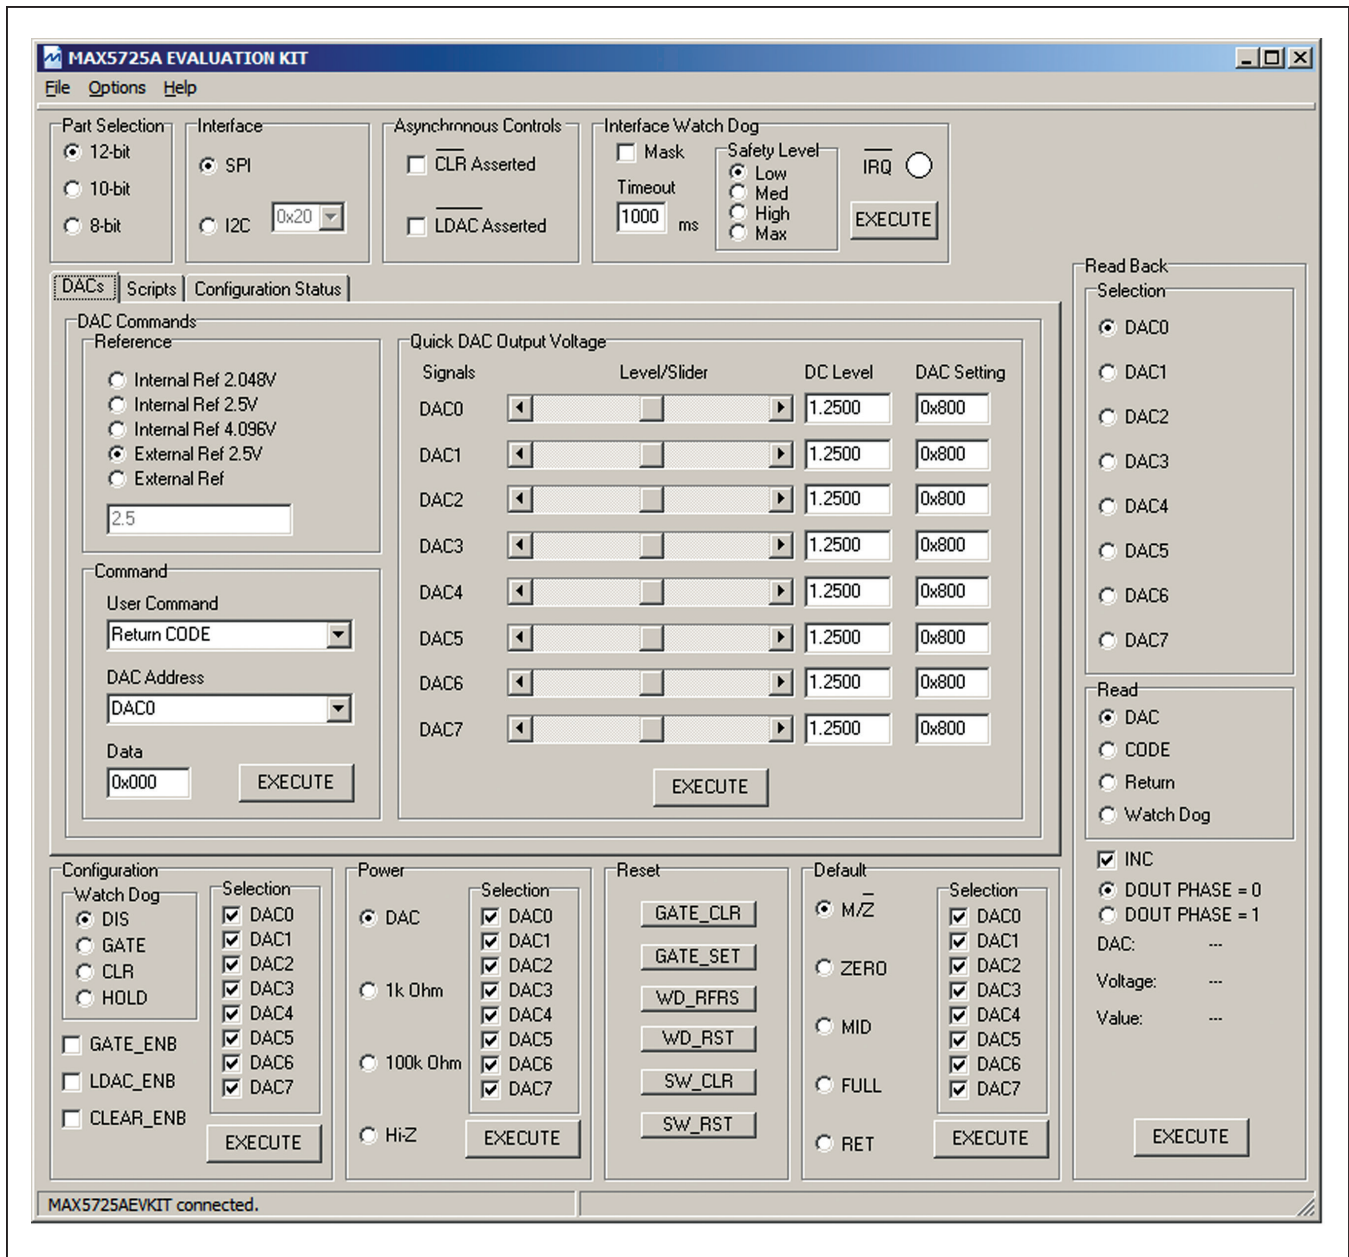
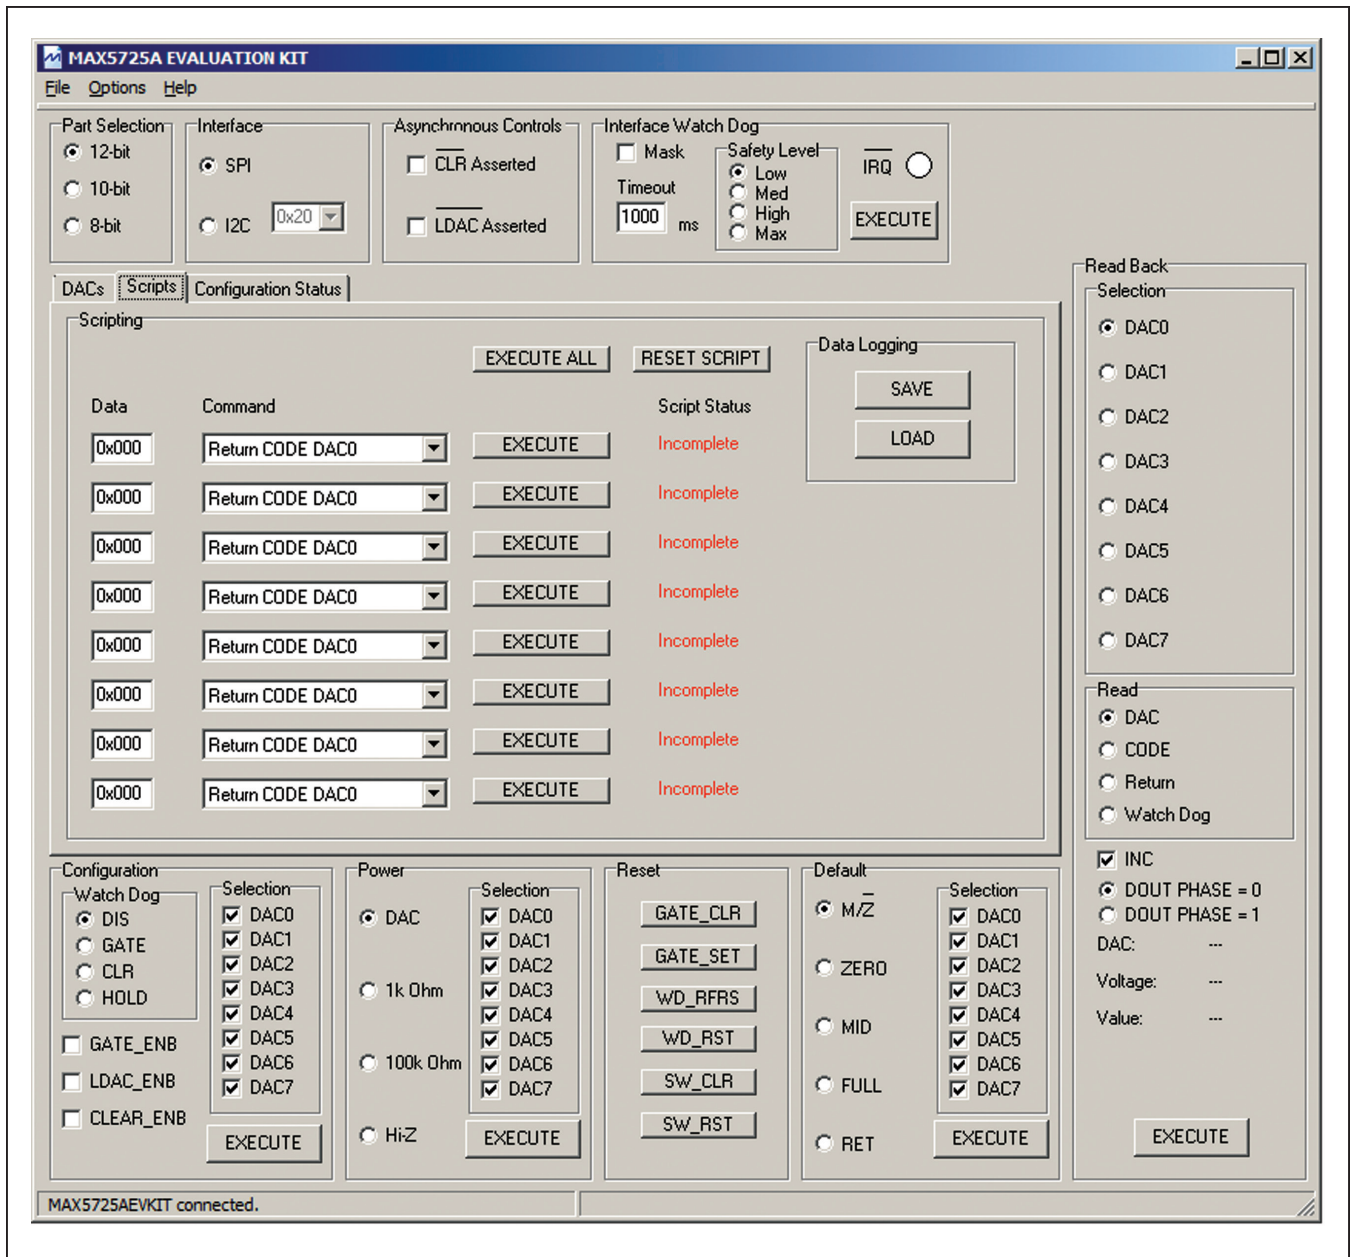
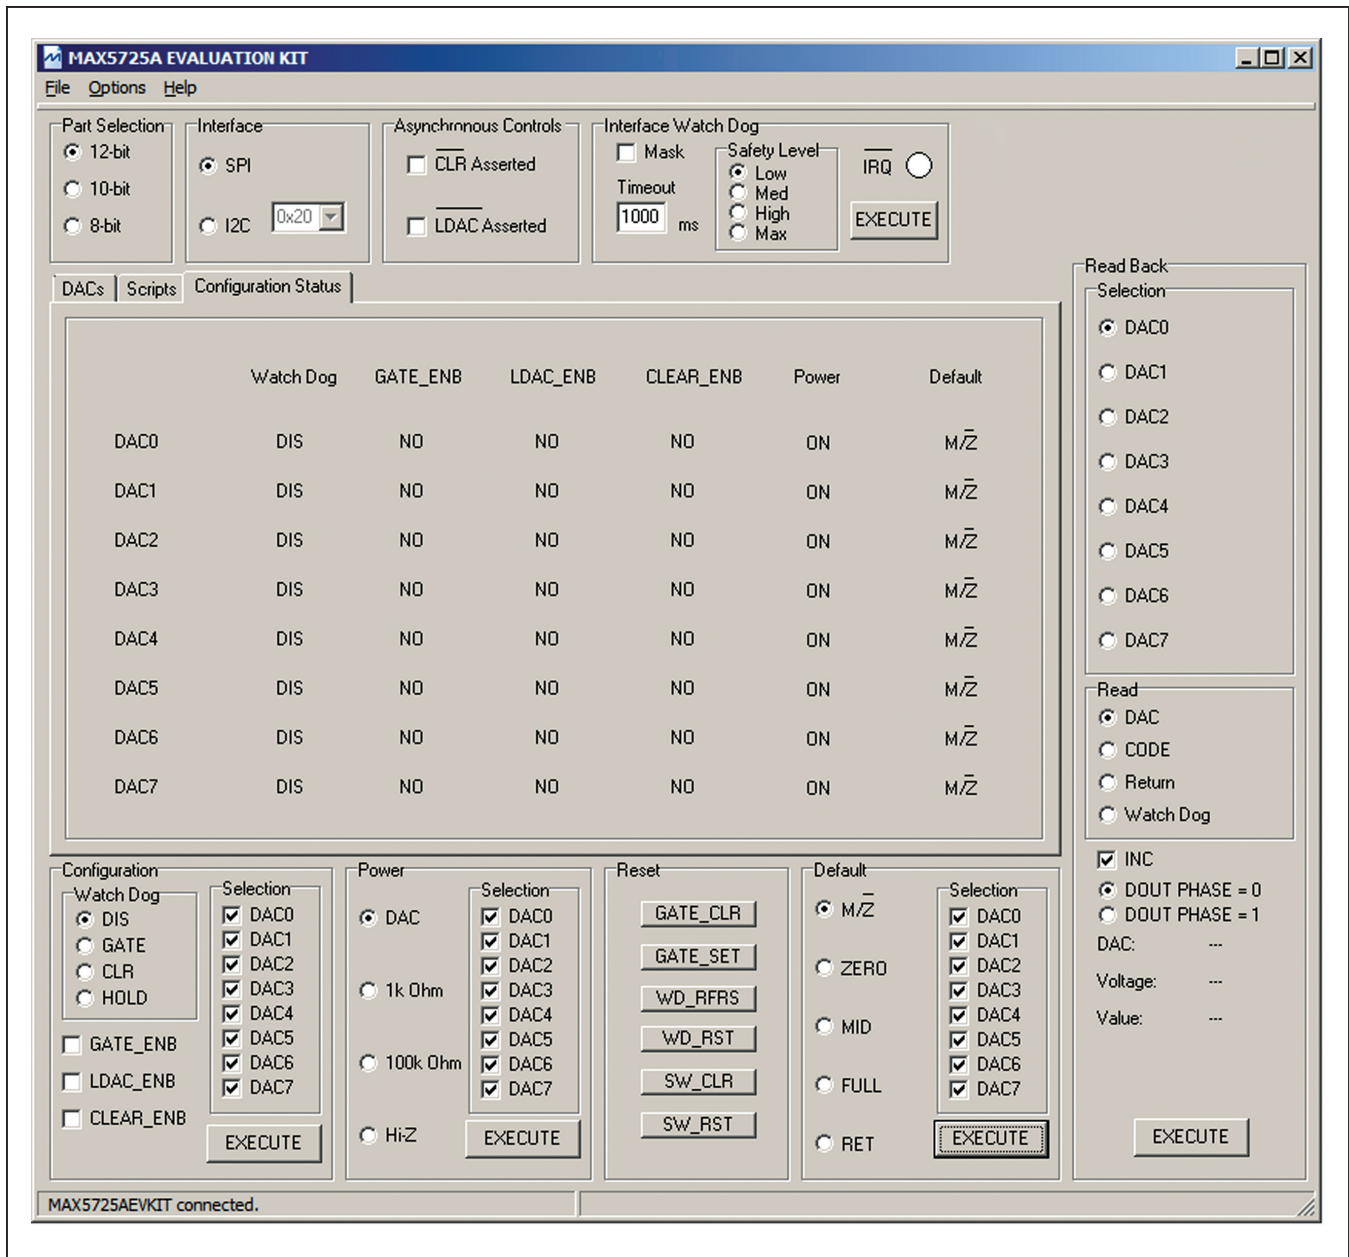

Figure 2. MAX5725A EV Kit Software Main Window (DACs Tab)
Figure 3. MAX5725A EV Kit Software Main Window (Scripts Tab)
Figure 4. MAX5725A EV Kit Software Main Window (Configuration Status Tab)
- 5) Start the EV kit software by opening its icon in the **Start | Programs** menu. The EV kit software main window appears, as shown in Figure 2.
The MAX5725A EV kit software can evaluate the SPI interface MAX5725A family of 12-/10-/8-bit DACs. The main software window has three tabs: **DACs**, **Scripts**, and **Configuration Status**. Within the **DACs** tab sheet (Figure 2), the user can set the reference and DAC outputs. The **Scripts** tab sheet (Figure 3) allows the user to send a sequence of write commands to the eight DACs, and load and save the write sequence. The **Configuration Status** tab sheet (Figure 4) displays the configuration settings for each DAC. In addition, the software allows the user to adjust the configuration, power, reset, and default settings.
Within the **DACs** tab sheet (Figure 2), the user can set the output of the DACs with two options. The first option is the **Quick DAC Output Voltage** group box that allows the user to write and load the CODE to all the DACs. Set
Within the **Scripts** tab sheet (Figure 3), enter the desired **Data** on the left and choose the appropriate **Command** from the drop-down list. Pressing the **EXECUTE** button writes to the CODE and/or DAC registers and the **Script Status** changes from **Incomplete** to **Complete**. Refer to the MAX5725A IC data sheet for a list of possible commands. If a sequence of commands needs to be performed, adjust all **Data** edit boxes and **Command** drop-down lists accordingly, and press the **EXECUTE ALL** button. To reset the **Script Status** to **Incomplete**, press the **RESET SCRIPT** button.
The **Configuration Status** tab sheet (Figure 4) displays the current status of the configuration, power, and default settings for each DAC.
There are two methods for communicating with the IC. The first is through the window shown in Figure 2. The second is through the **Advanced User Interface** window shown in Figure 4. The **Advanced User Interface** window becomes available by selecting the **Options I Interface (Advanced User)** menu item and allows execution of serial commands manually.